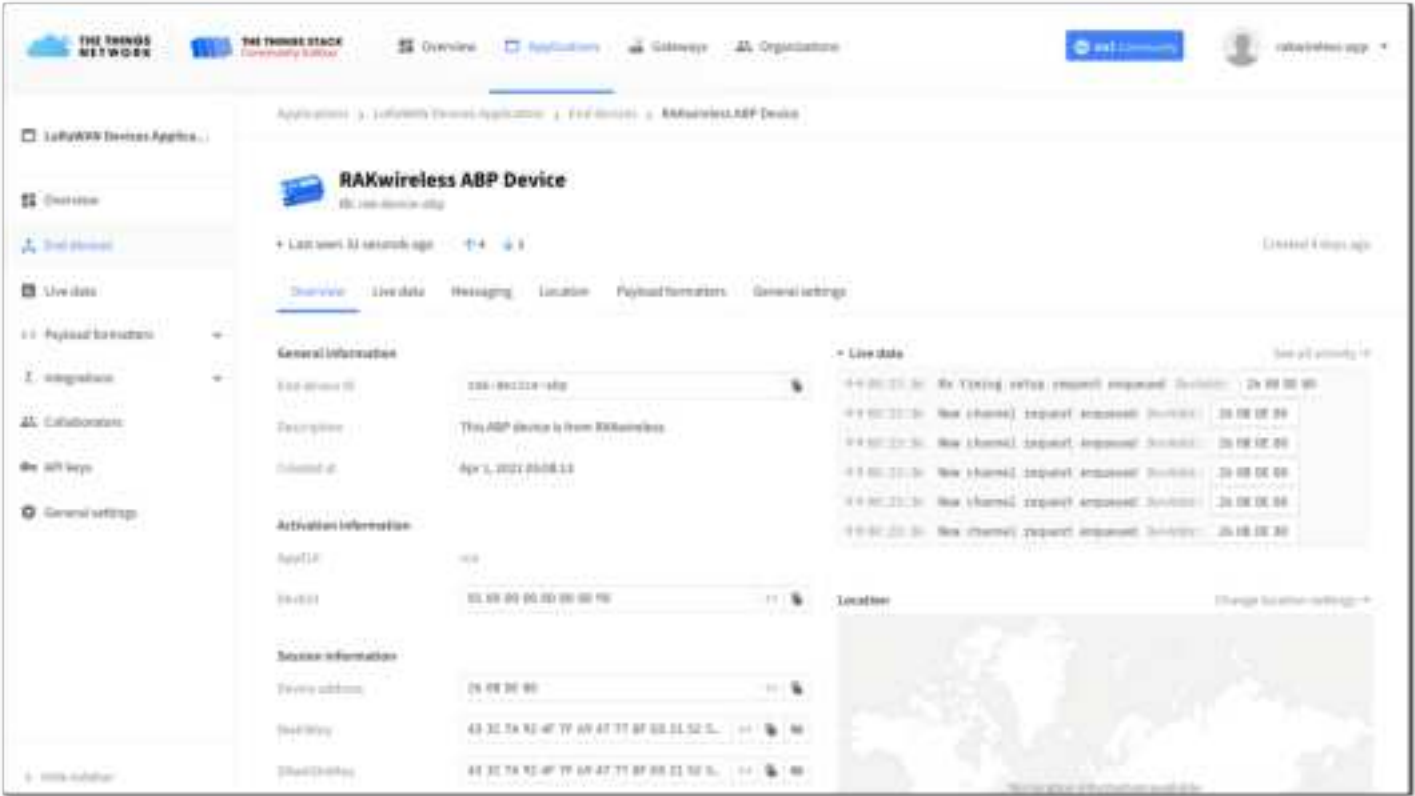
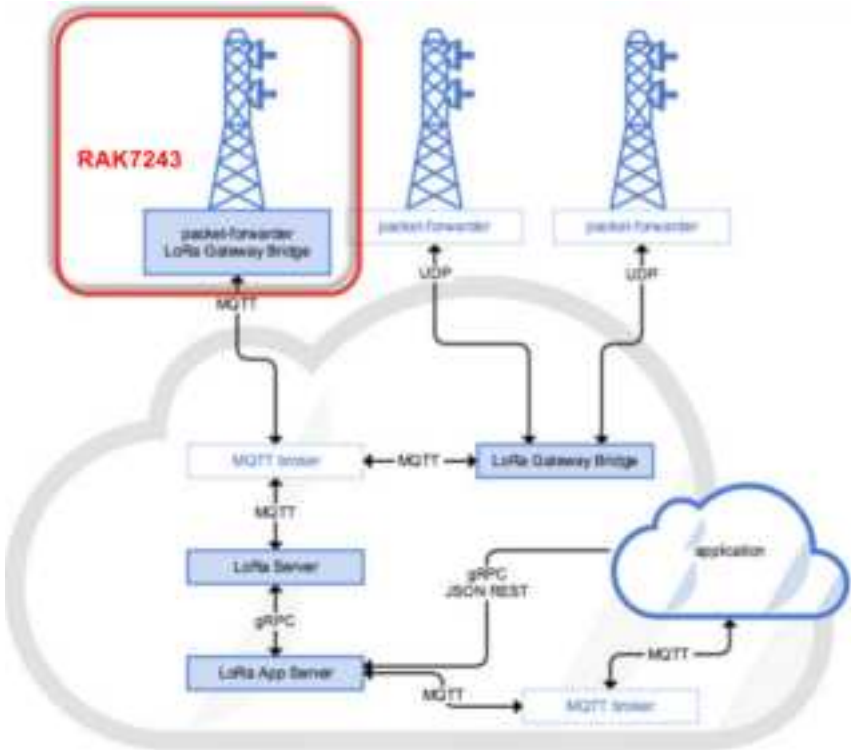

Figure 67: OTAA Test Sample Data Sent Viewed in TTN
Figure 68: RAK3172 Module in the Context of the ChirpStack Platform
1. Choose the **Application** created in the previous step, then select the **DEVICES** tab, as shown in **Figure 67** and **Figure 68**.